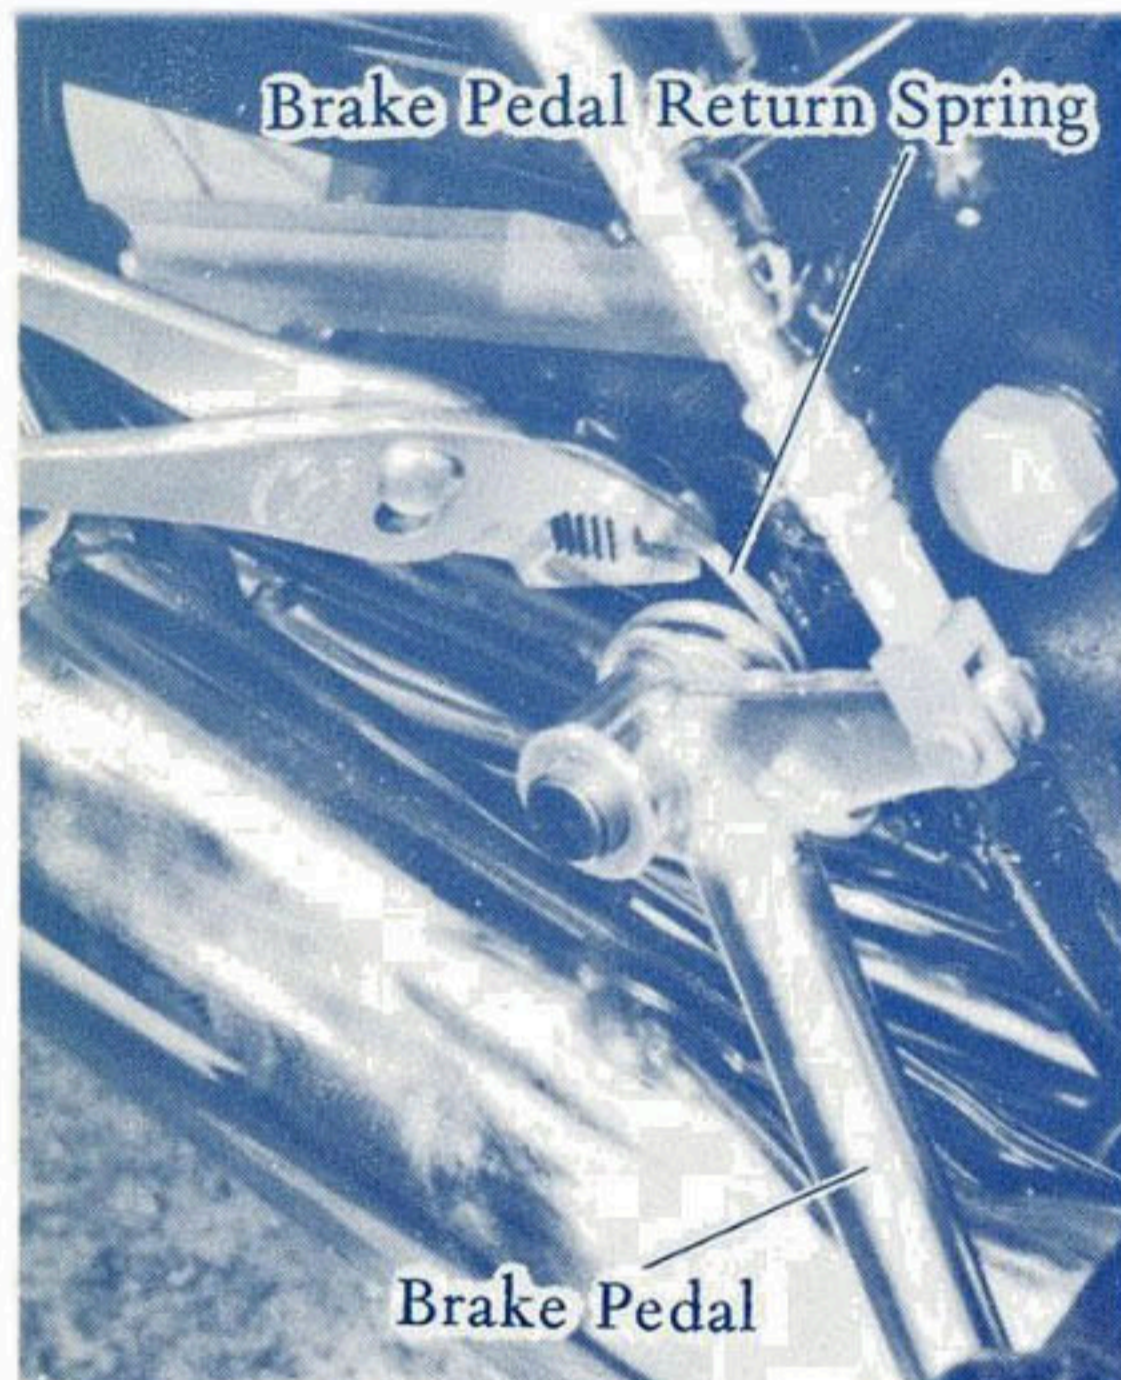

Fig. 24
1. Fit brake pedal to brake pedal shaft of frame and fit brake pedal return spring in hole of frame with pliers as shown in fig. 24.